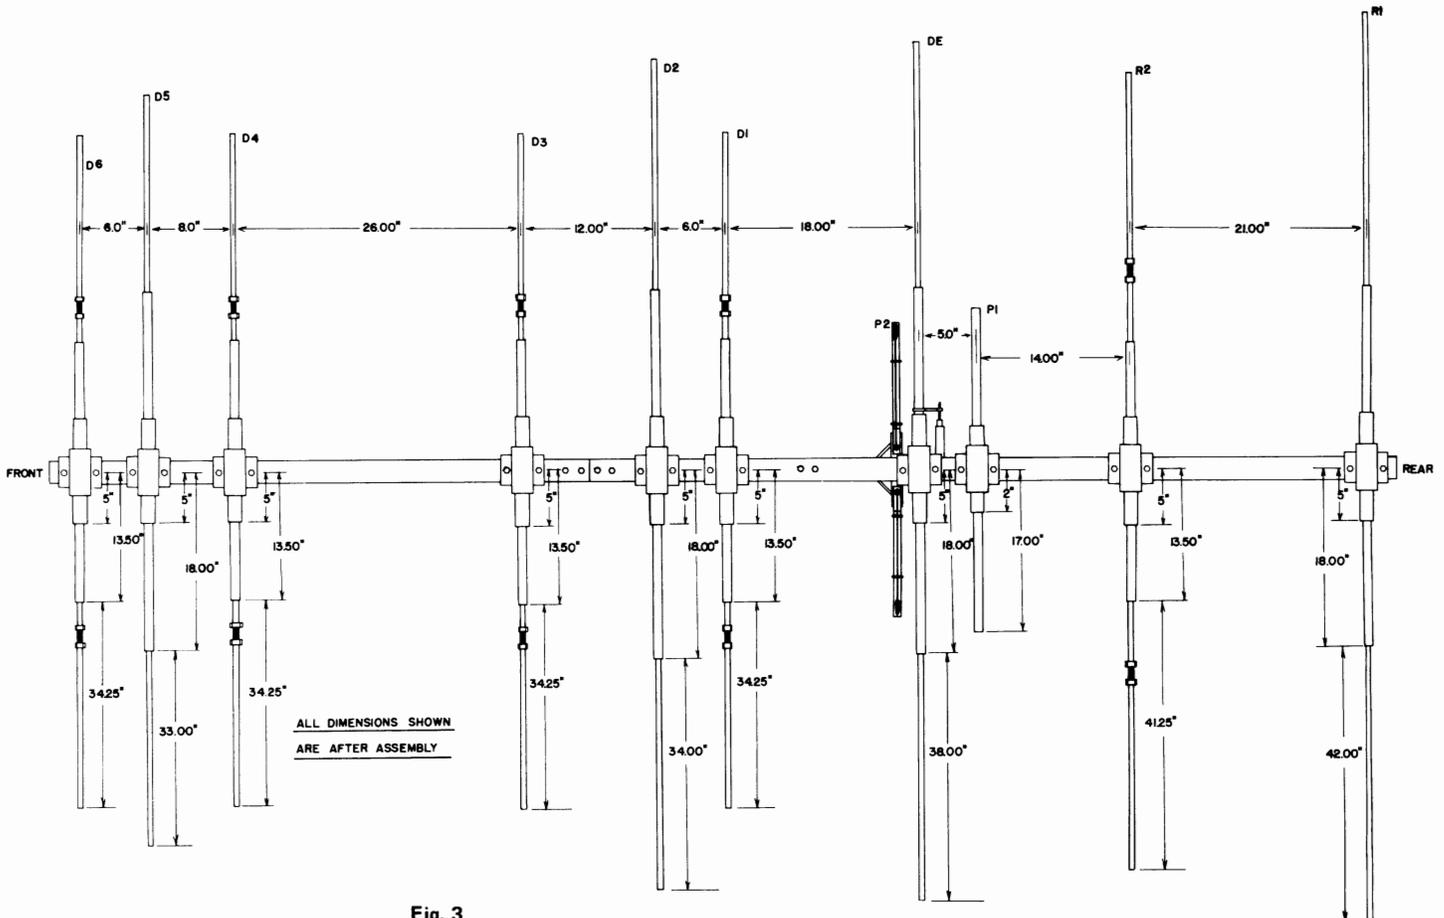

Fig. 3
REFLECTOR ELEMENTS (R1) – Referring to Figures 2 and 3 locate the 1/2” O.D. x 36” long piece of element having the pre-assembled “element to boom brackets.” Locate the two pieces of 3/8” O.D. x 46” tubing. Insert the pieces of 3/8” O.D. x 46” tubing into the ends of the 1/2” O.D. tubing – being sure to align the elements holes. Fasten the 3/8” O.D. x 46” tubing using 8-32 x 1/4” self tapping machine screws. This element will be the first reflector element (R1 on Figure 3).
boom bracket." Locate two pieces of 3/8" O.D. x 45-1/4" long pieces of tubing with fiberglass insulator. Referring to Figure 2, insert the pieces of 3/8" O.D. x 45-1/4" tubing into the ends of the 1/2" O.D. tubing — being sure to align the element holes. Fasten the 3/8" O.D. x 45-1/4" tubing using 8-32 x 1/4" self tapping machine screws. This element will be the second reflector element (R2 on Figure 3).
DRIVEN ELEMENT (DE) — Locate the 1/2" O.D. x 36" long piece of element having the pre-assembled "element to boom bracket". Locate two pieces of 3/8" O.D. x 42" long pieces of tubing. Referring to Figure 2, insert the pieces of 3/8" O.D. x 42" tubing into the ends of the 1/2" O.D. tubing — being sure to align the element holes. Fasten the 3/8" O.D. x 42" tubing using 8-32 x 1/4" self tapping machine screws. This element will be the driven element (DE on Figure 3).
glass insulators. Referring to Figure 2 insert the pieces of 3/8" O.D. x 38-1/4" tubing into the ends of the 1/2" O.D. tubing — being sure to align the element holes. Fasten the 3/8" O.D. x 38-1/4" tubing using 8-32 x 1/4" self tapping machine screws. These elements will be the first, third, fourth and sixth director elements (D1, D3, D4, D6 on Figure 3).
DIRECTOR ELEMENT (D2) — Locate the 1/2" O.D. x 36" long piece of element having the pre-assembled "element to boom brackets." Locate two pieces of 3/8" O.D. x 38" long pieces of tubing. Referring to Figure 2, insert the pieces of 3/8" O.D. x 38" tubing into the ends of the 1/2" O.D. tubing — being sure to align the element holes. Fasten the 3/8" O.D. x 38" tubing using 8-32 x 1/4" self tapping machine screws. This element will be the second director (D2 on Figure 3).
ing, being sure to align the element holes. Fasten the 3/8" O.D. x 37" tubing using 8-32 x 1/4" self tapping machine screws. This element will be the fifth director element (D5 on Figure 3).